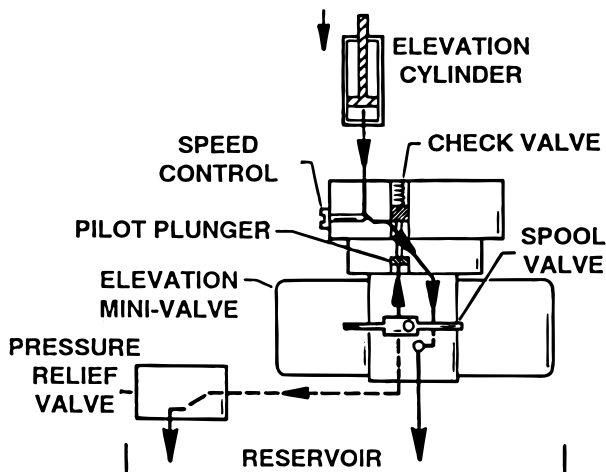

**Figure 1-15. Single Action Brake Cylinder**
6. Single Action Brake Cylinder (Later Table Models)- The brake cylinders are single action type similar to the elevation cylinder. The movable piston's ram is connected to a brake pad. See figure 1-15. Oil pumped into the top of the cylinder pushes the piston down and raises the table base off its casters. An internal return spring on the bottom of the piston, pushes the piston up to return the oil through the mini-valve to the reservoir.